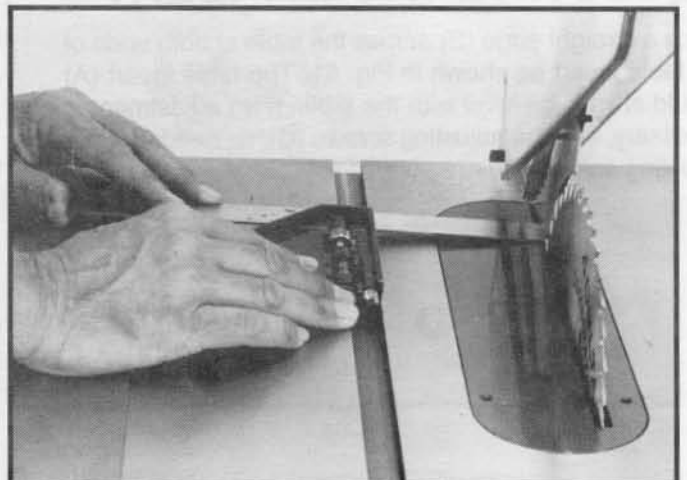

Fig. 49
3. Rotate the saw blade so that the same tooth you used in **STEP 2** is in the rear position, as shown in Fig. 49, and check this distance. Both the front and rear measurements should be identical.